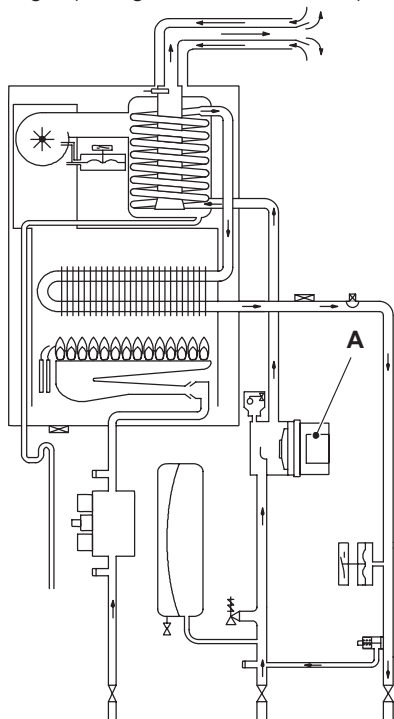
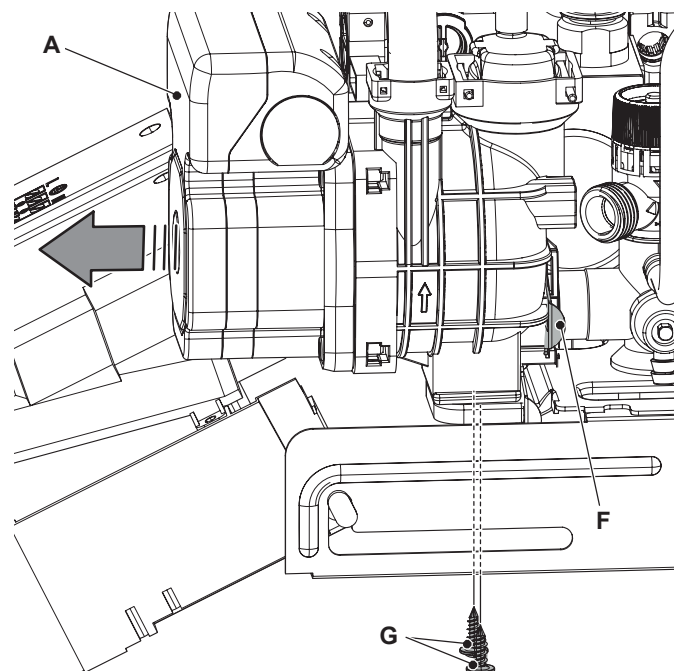

Figure 7.1
Figure 7.4
The pump A in Figure 7.1 and Figure 7.4 has the function of making the water in the main circuit circulate through the main heat exchanger, the condensing heat exchanger and therefore through the C.H. system (during the C.H. function) or through the secondary heat exchanger (during the D.H.W. function).
- 5 Remove the locking plate F (Figure 7.4).